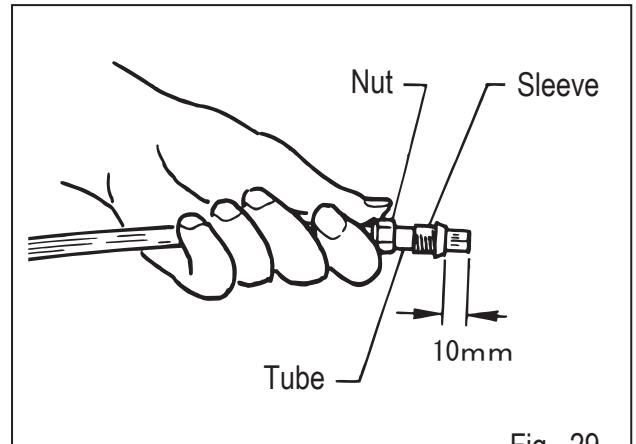

Fig. 29
c) Installing the Nylon tube (Fig.29)